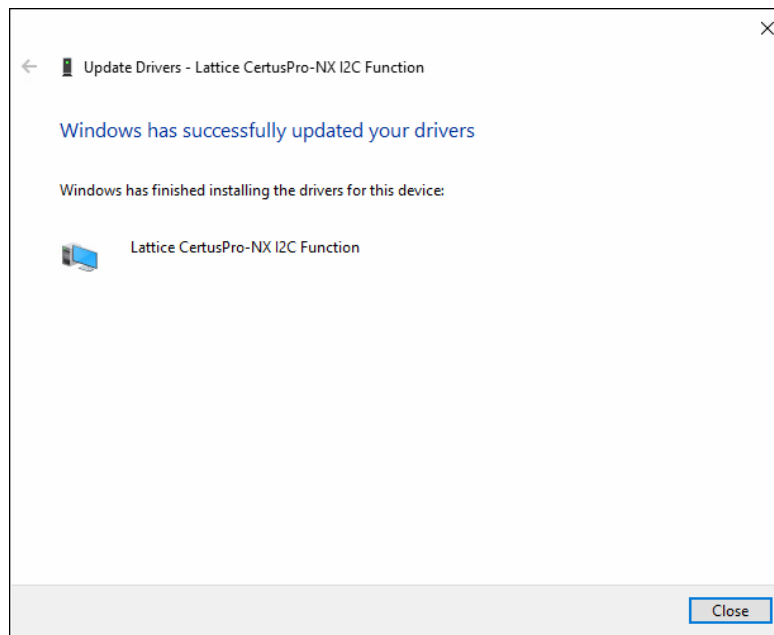

Figure 5.31. I²C Driver Installation Status Message for CertusPro-NX
8. If the driver is installed successfully, a message is displayed as shown in Figure 5.31.